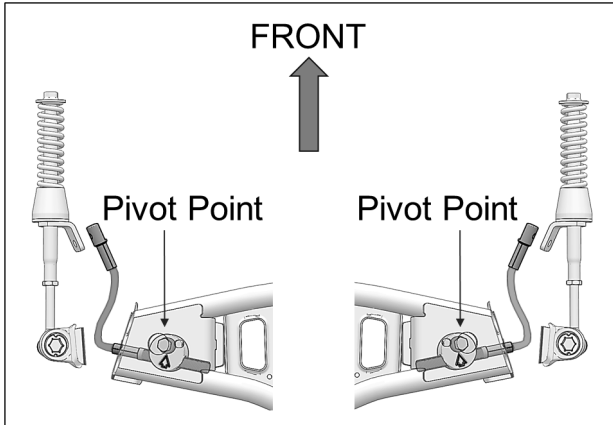

Fig. 23
13. Make sure aluminum disk pivot point is installed in front of steering limiter cable. See Fig. 23